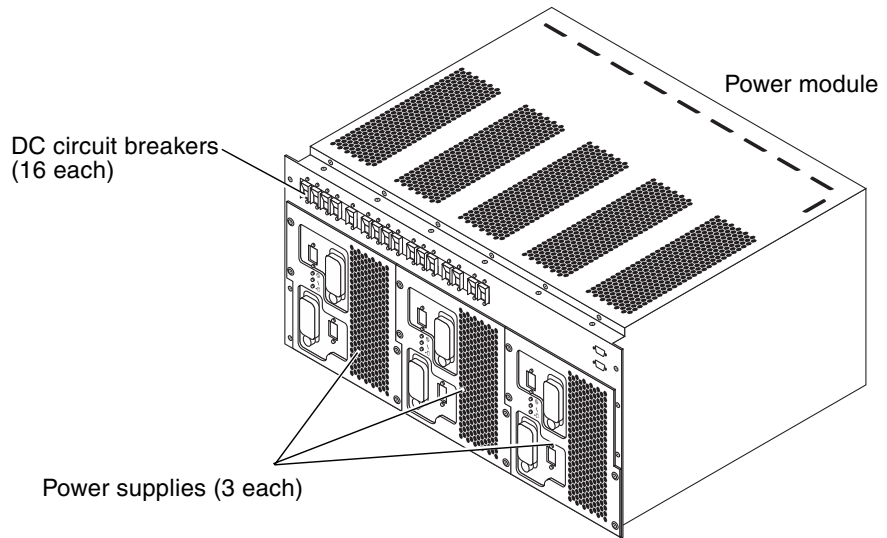

FIGURE 2-6 Circuit Breakers and Power Supplies
2. Ensure all DC circuit breakers at the front and rear power modules are in the on position (FIGURE 2-6).